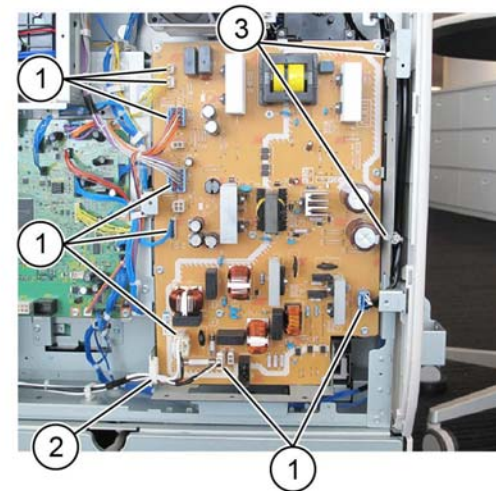

Figure 2 Preparation
3. Prepare to remove the LVPS assembly, Figure 2:
- a. Disconnect eight connectors (1).
- b. Release the harness from the clamp (2).
- c. Remove both harness clamps (3) from the frame.